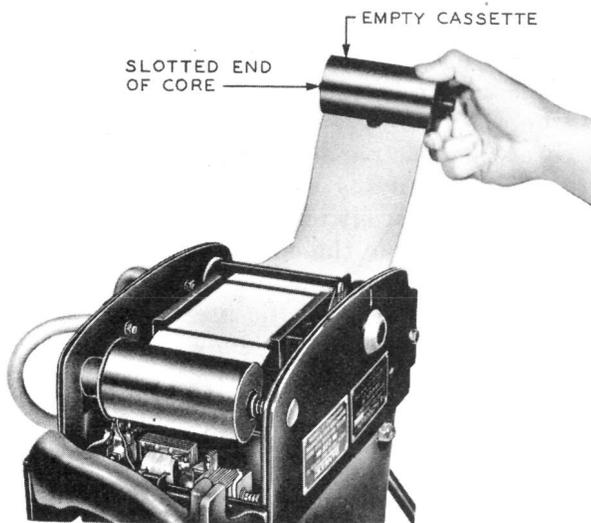

Fig. 9 – Paper Inserted in Empty Cassette
4.10 Hold the empty cassette with the side marked UP uppermost and the opening in the cassette toward the end of the paper in the camera. Insert the end of the paper into the cassette far enough so that the tapered portion is entirely in the cassette as shown in Fig. 9. Turn the slotted end of the core of the cassette with the fingers in a counterclockwise direction to wind the paper over the core. Continue to turn the core until most of the slack paper is wound into the cassette. When starting and winding the paper into the cassette, take care that the paper enters the cassette squarely and does not tend to curl or bind at either end of the cassette opening.